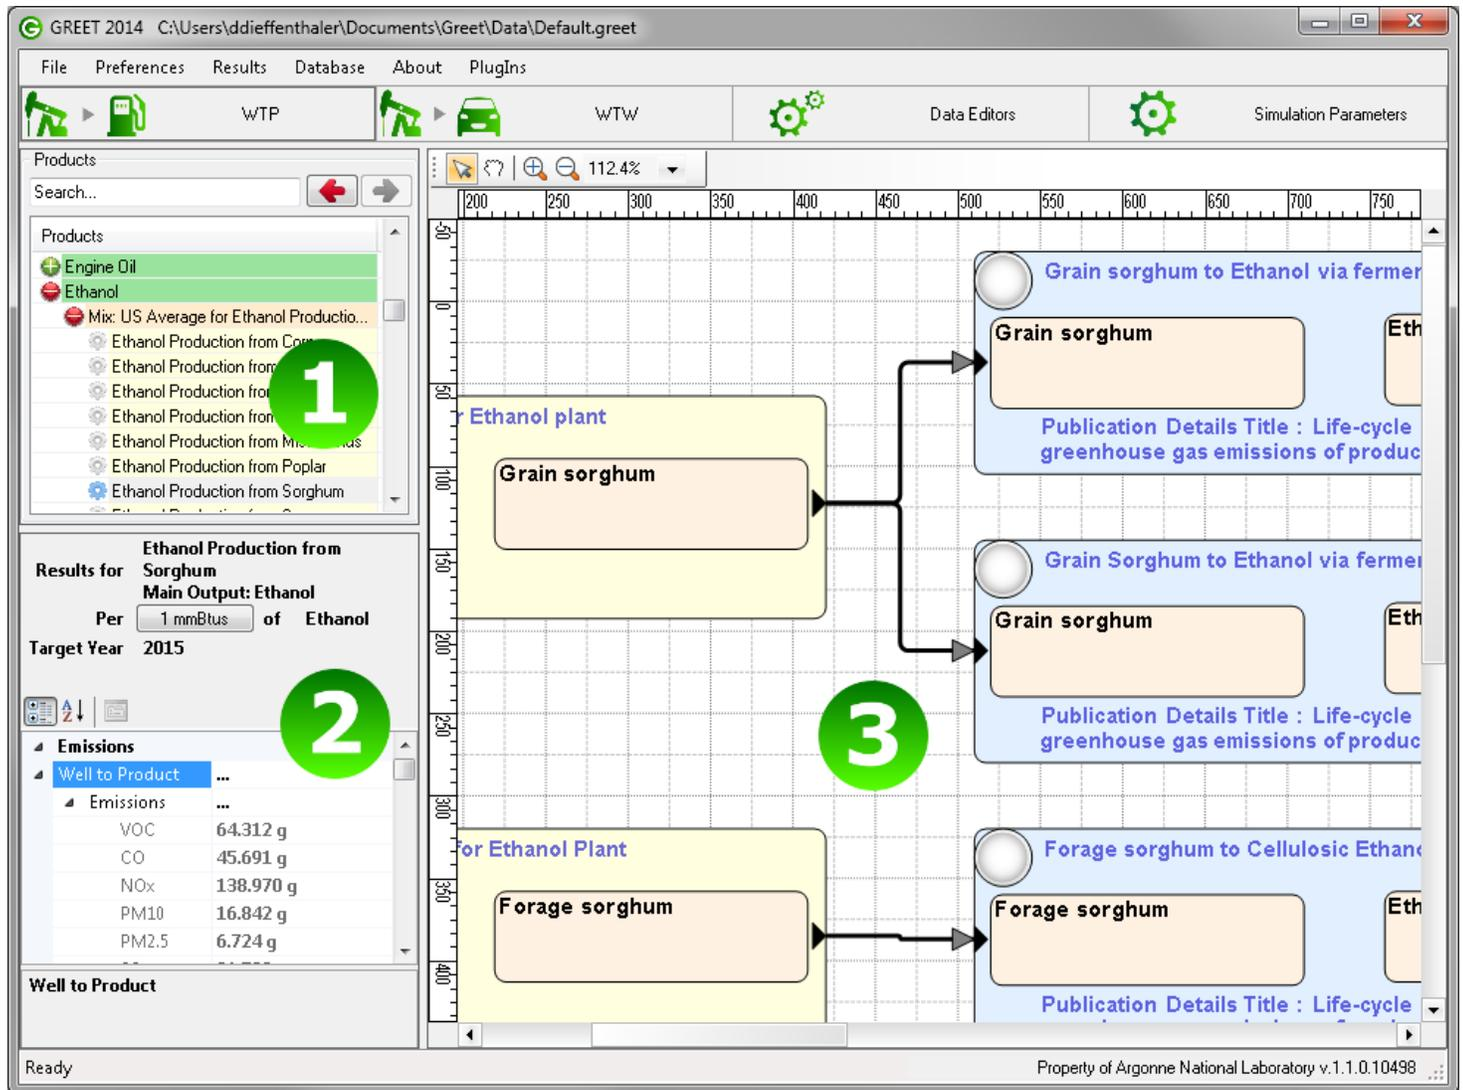

Figure 13: Well-to-Pump Pane Showing the Representation of a Pathway
The WTP pane has 3 zones, as shown on Figure 14. Zone 1 represents the products tree. Zone 2 shows the results associated with the selected pathway. To select a pathway, expand a resource node or a pathway mix until you've reached an item that is not preceded by a plus or minus sign. In the example above, "Ethanol Production From Sorghum" is selected and represented in Zone 3. Zone 3 shows either a representation of the pathway or a pathway mix. Figure 13 shows a pathway represented in the explorer and Figure 14 represents a pathway mix.
- pathway mix: When a pathway mix is selected in the Pathway-Mix tree (Zone 1 of Figure 13).
- Pathway: When a pathway is selected in the Pathway-Mix tree (Zone 1 of Figure 13).
- Process: When a process is selected in the pathway representation (Zone 3 of Figure 13).
- Step: When a transportation step is selected within a transportation process (Zone 3 of Figure 13).
- Input: When an input is selected in an expanded stationary process (Zone 3 of Figure 13).
- Technology: When a technology is selected in an expanded stationary process input (Zone 3 of Figure 13).